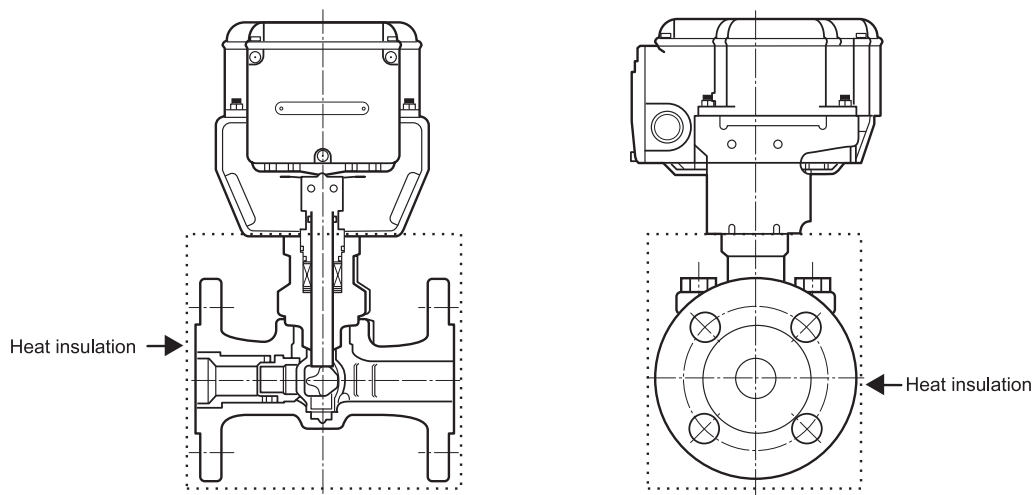

Figure 3. Area where heat insulation can be applied
- 4) Do not apply heat insulation to the actuator and the yoke. Apply heat insulation only to the area boxed with dotted lines shown in Fig. 3 if necessary.